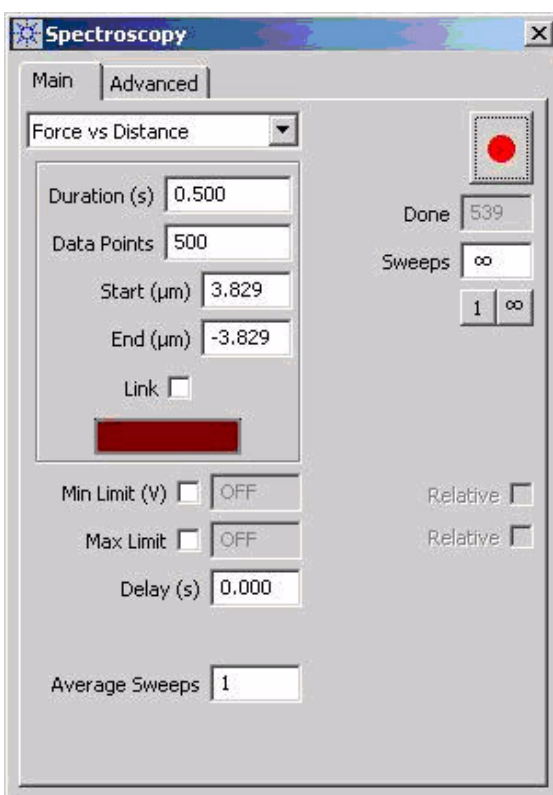

Figure 109 Spectroscopy window Main tab
- 2 Choose **Controls > Spectroscopy** to open the **Spectroscopy window** (Figure 109).